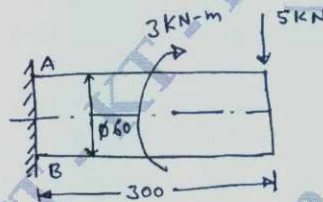

Fig. Q1 (b)
b. A circular rod of diameter 60 mm is subjected to bending load and torsional load as shown in Fig. Q1 (b). Determine the nature and magnitude of stresses at the critical points. (16 Marks)